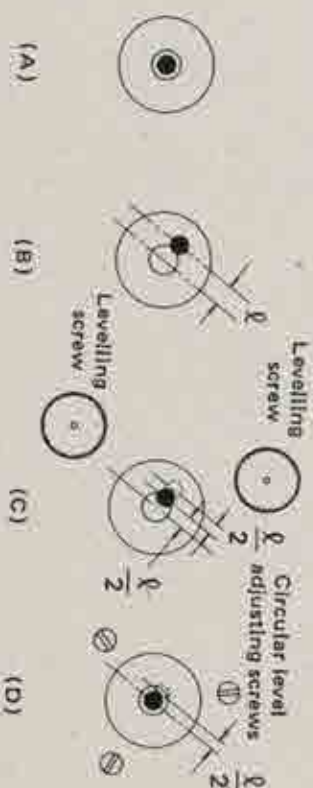

Fig. 13
1. CIRCULAR LEVEL (perpendicular alignment with the vertical axis) (Fig. 13)